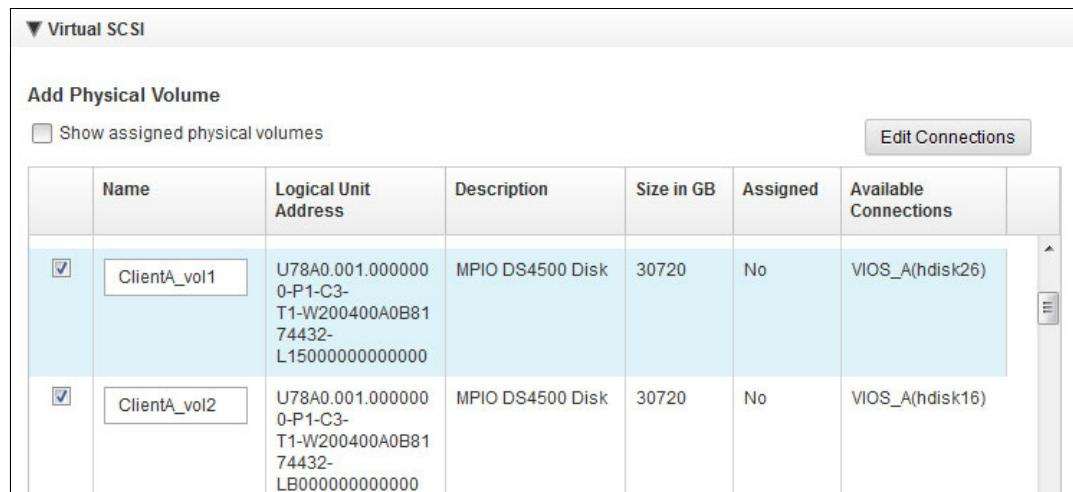

Figure 2-99 Deployment: Storage - Multiple Volumes
Selecting multiple volumes is supported, as shown in Figure 2-99.
- Figure 2-99 on page 133 shows that multiple volumes were selected to be assigned to the logical partition upon deployment.